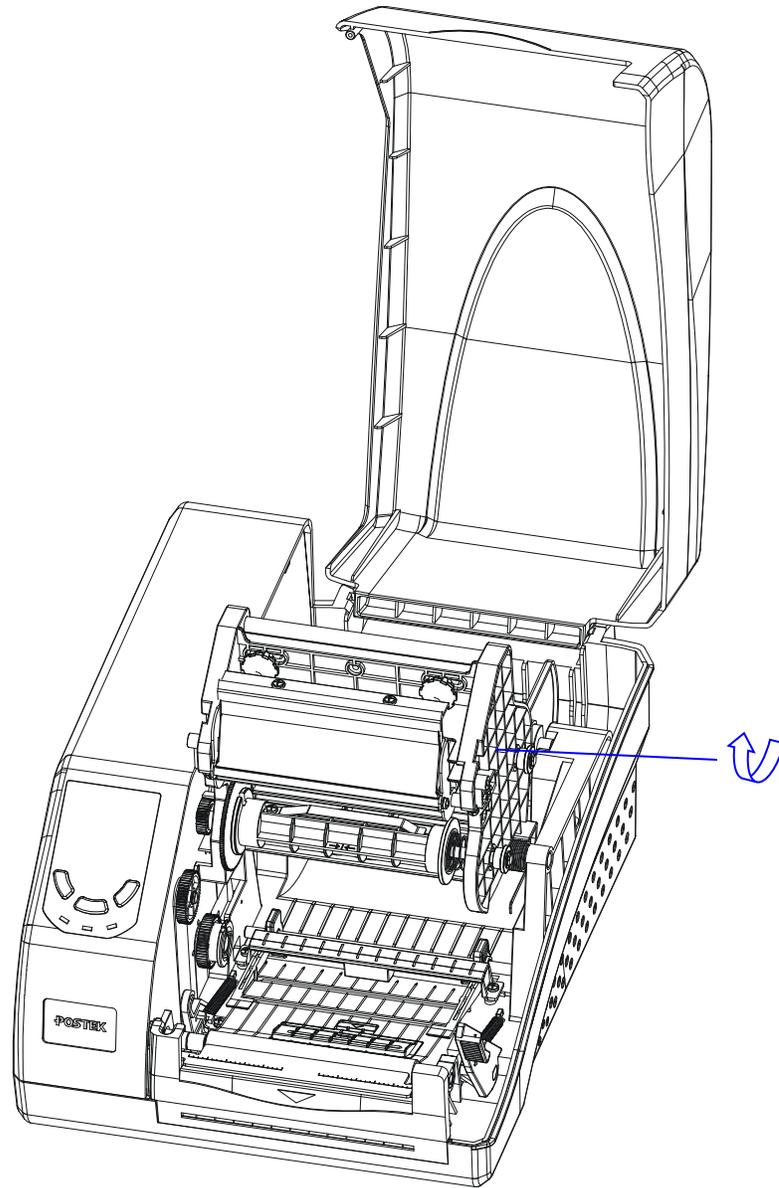

Figure 5-2
2. Lift the Printhead Module to expose the ribbon supply spindle (see Figure 5-2).